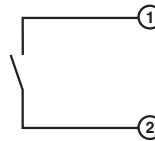
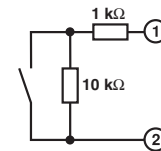

Figure 5 Switch contact with open circuit
Figure 6 Switch contact with resistance circuit
**NOTE:** For **switch contacts with open circuit** (Figure 5), line fault detection (DIP2/DIP4 = I) must be disabled or the corresponding resistance circuit must be provided directly at the switch contact (Figure 6, e. g. UKK 5-2R/NAMUR (Order No. 2941662) with D-UKK 3/5 (Order No. 2770024)).
**WARNING:** Only switch contacts with resistance circuit are **permitted** at the input for safety-related applications (see Figure 6).